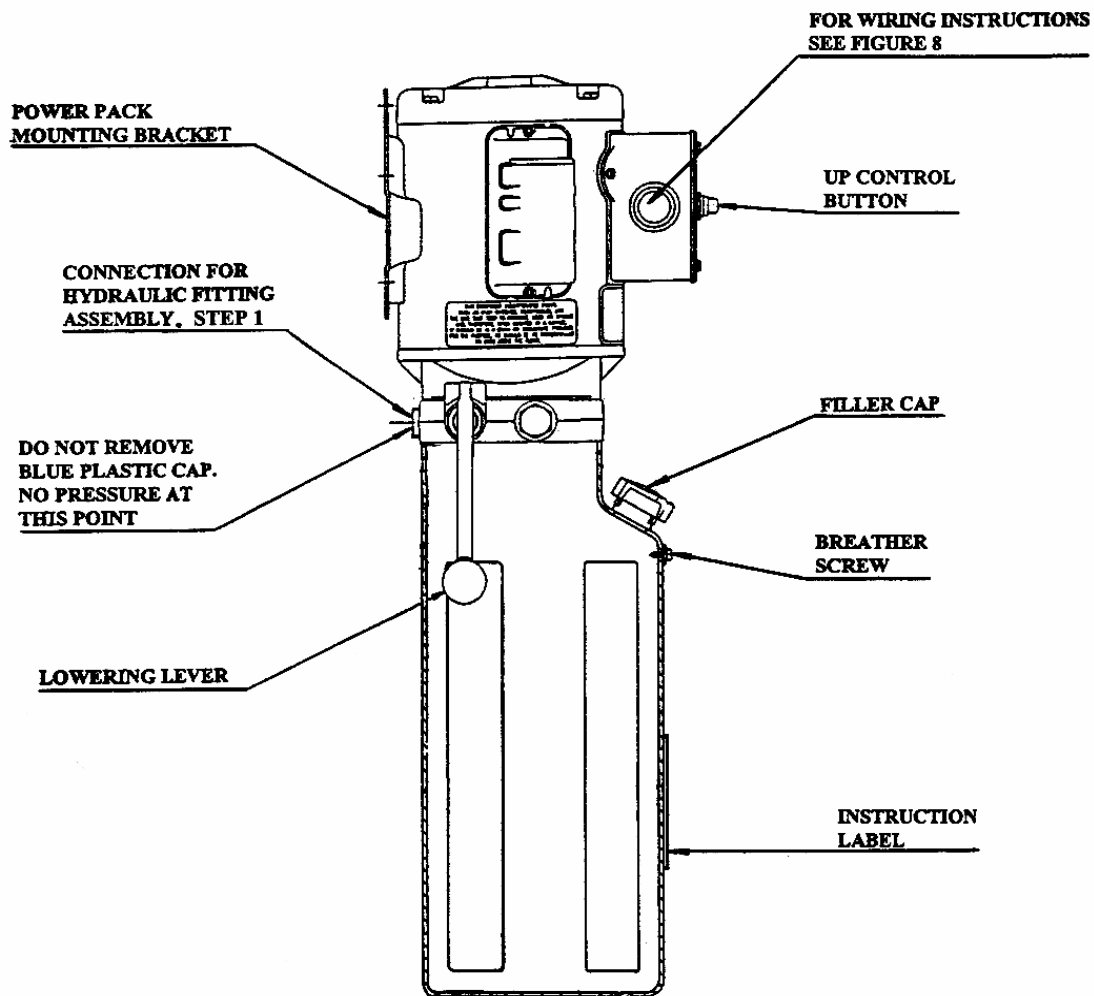

Figure 7 – Powerpack Details
2. Bolt power pack to the mounting bracket on the power side tower using four (4) 5/16"-18UNC x 1"LG. hex head bolts, four (4) 5/16" ID lock washers, four (4) 5/16" ID flat washers and four (4) 5/16"-18UNC hex nuts. Do not tighten.
3. Remove the filler cap from the powerpack and fill the reservoir with approximately 4.5 Gal. (18L) of ISO32 hydraulic oil (10 wt. hydraulic oil). Remove breather screw when filling and replace when full. Refer to figure 7.